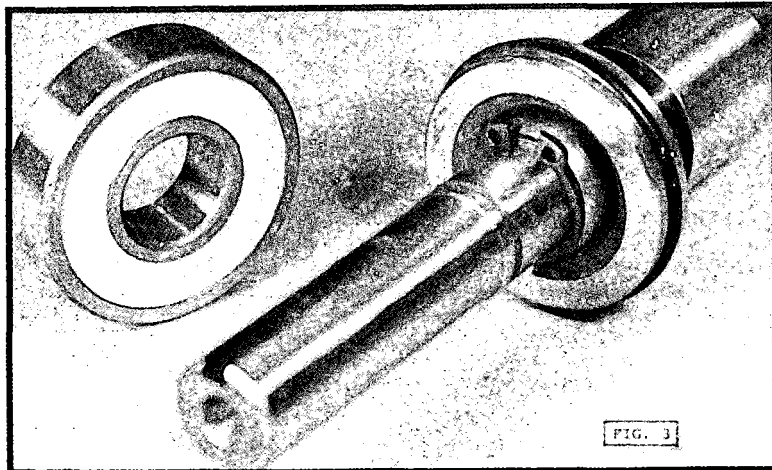

FIG. 3
3. Remove grease from cavity to expose snap ring as shown in Fig. 3.
5. Fill cavity between snap ring (021) and seal retainer (023), (Fig. 3) with grease (Krytox 240AC or equal).